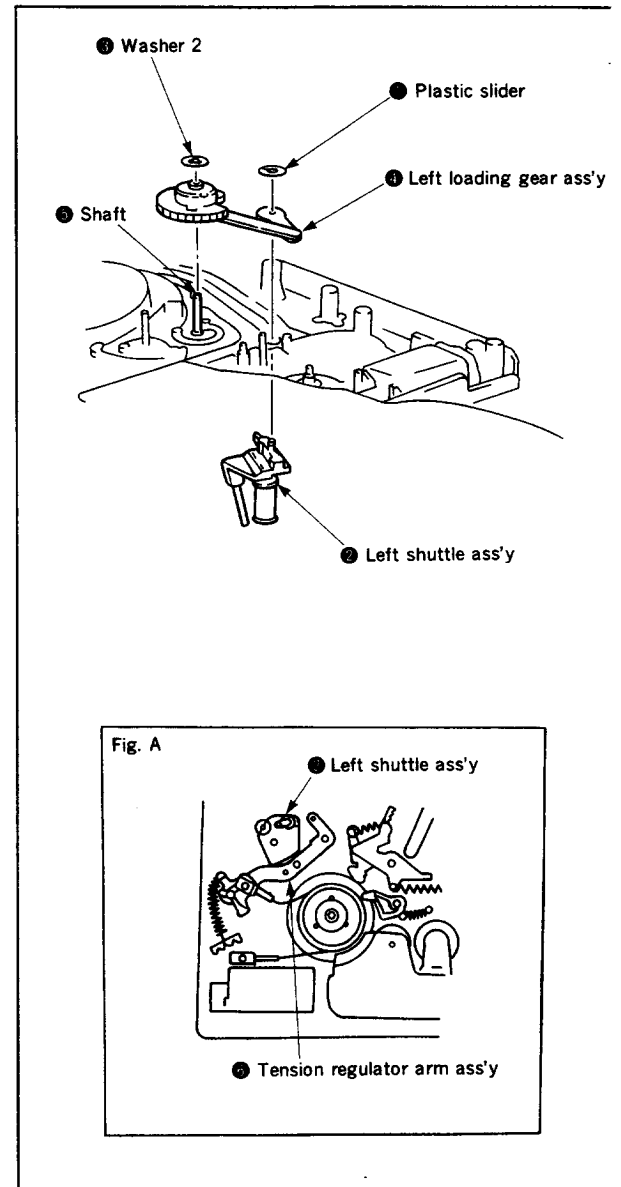

Fig. 3-41.
**3-35. LEFT SHUTTLE ASS'Y, LEFT LOADING GEAR ASS'Y (Fig. 3-41)**
- 2) Remove the plastic slider ❶, then pull out the left shuttle ass'y ❷.
- 3) Remove washer 2 ❸, then pull out the left loading gear ass'y ❹.
- Apply 1/2 drop of lubricant to shaft ❺.
- The tension regulator arm ass'y ❻ and left shuttle ass'y must be positioned as shown in Fig. A below.
- Do not hold on to the arm of the left loading gear ass'y when the left loading gear ass'y ❹ is pressed.
- Clean the section of the felt shuttle ass'y ❷ where the tape is attached.